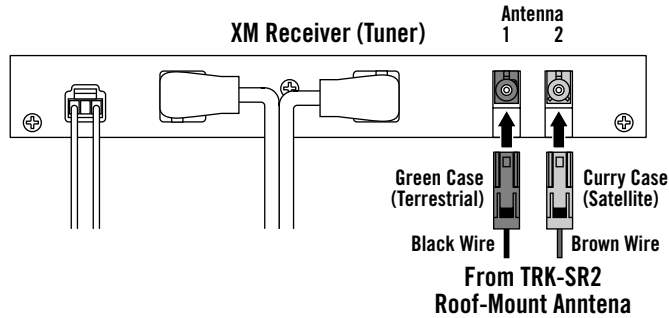

Figure 11. Wiring diagram shows antenna connections to an XM receiver.
- If the XM system is not already installed, temporarily connect power and ground to the system. Connect the TRK-SR2 to your XM receiver, as directed by the receiver's manufacturer (see Figure 11 below).